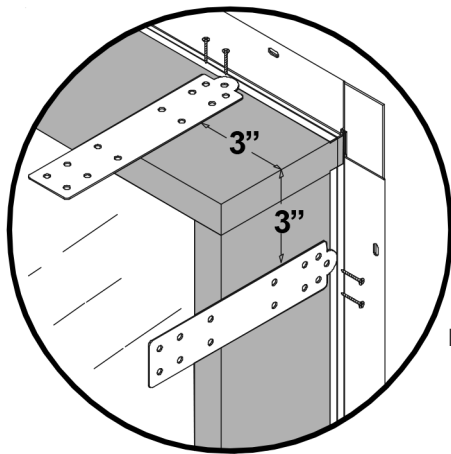

Figure 1
- 1) Windows that are being installed into a masonry application may not have the clips factory applied. In this case, place a clip 3" from each corner and fasten with two #7 x 5/8" long screws. (Fig. 1)